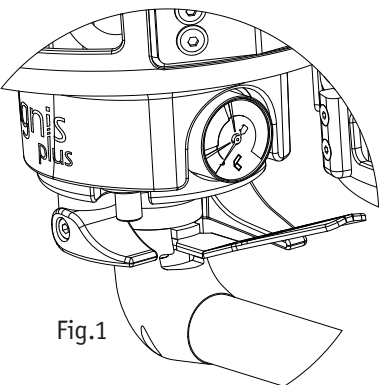
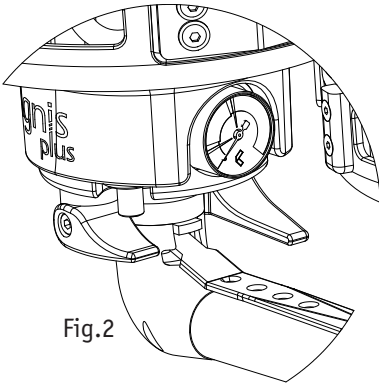
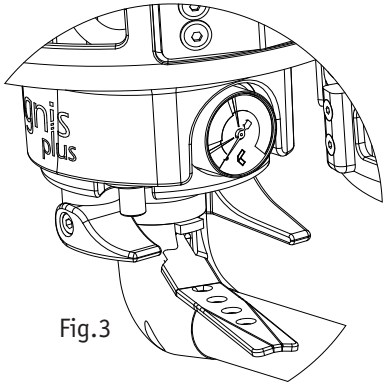

Fig.1
Fig.2
Fig.3
The BV is closed when the lever is in the position shown in Fig.1 (the lever is in the default position) and it is open when lever is in the position shown in Fig.2 (the lever is pressed to burner handle). The BV is open and locked if it is in the position shown in Fig.3 (lever is pressed against the burner handle and rotated around the axis of the unit into the cutout in the burner handle end cap).
The whisper burner is closed when the lever is in position as shown in Fig. 1 (the default position) and opened when the lever is in position shown in Fig. 2.
*The whisper burner remains OPEN when the lever is flipped over as shown in Fig. 3. and Fig. 4. Keeping lever at those positions is not allowed as it can be potentially dangerous.*